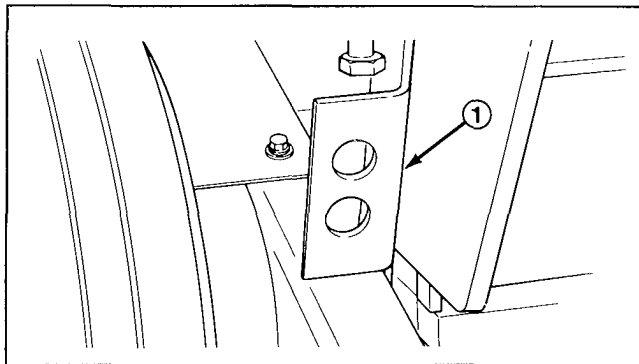

Figure 16
3. Stop engine and raise lock-up brackets on each side of chassis (Fig. 16). Lower coring head until it rests on brackets.